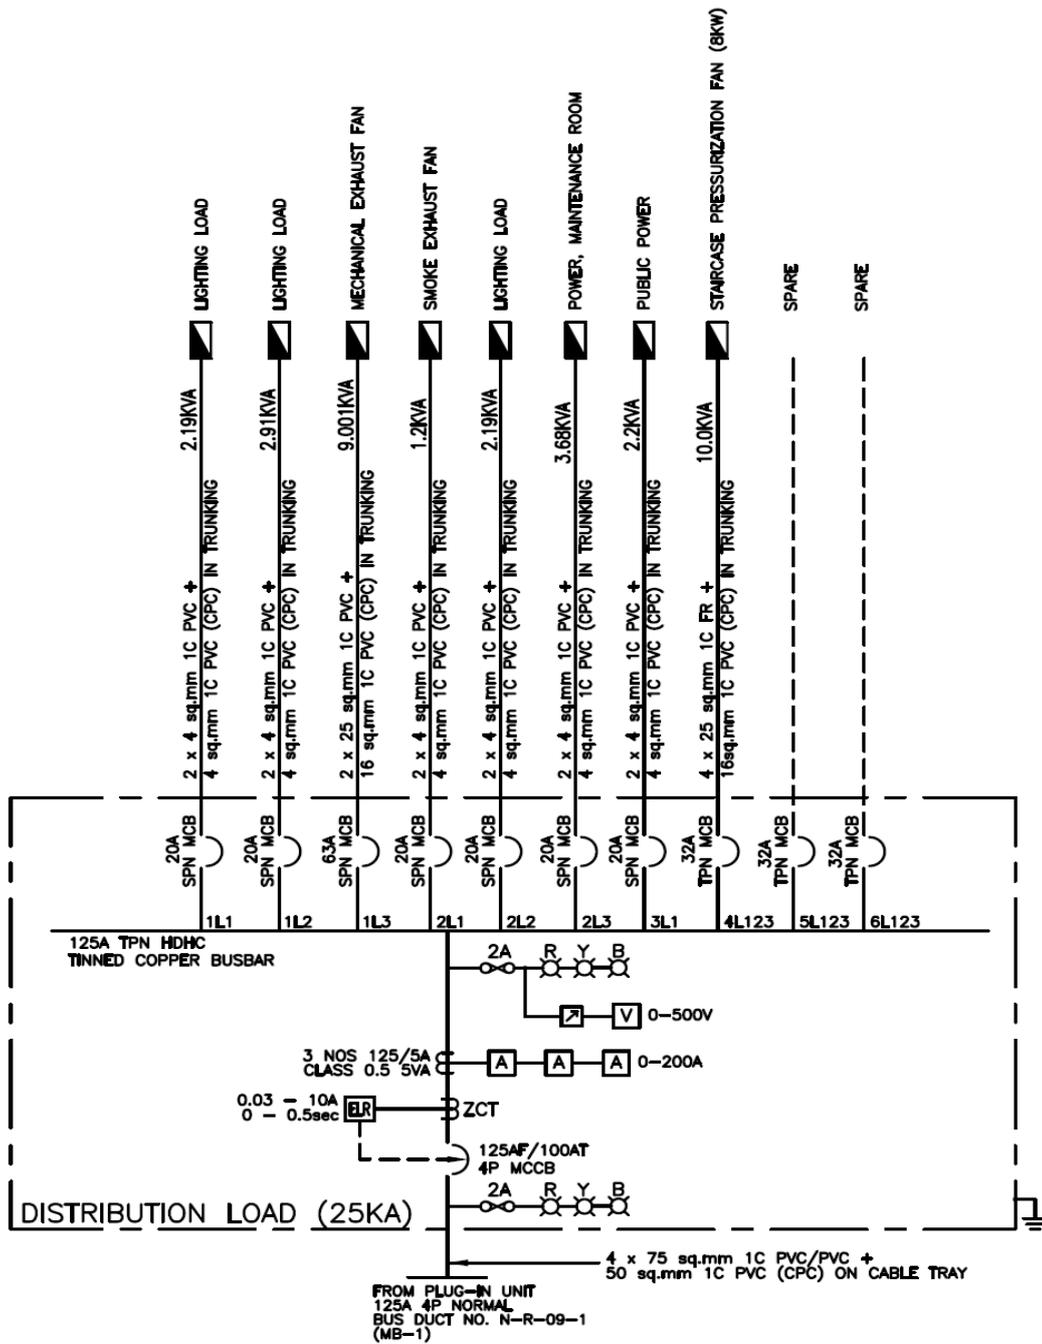

Figure Q1(d)
- (d) Refer to the distribution board shown in Figure Q1(d). A new load, an air handling unit (AHU) rated at 11 kW 3-phase 400V at 0.8 pf, will be added to the distribution board.